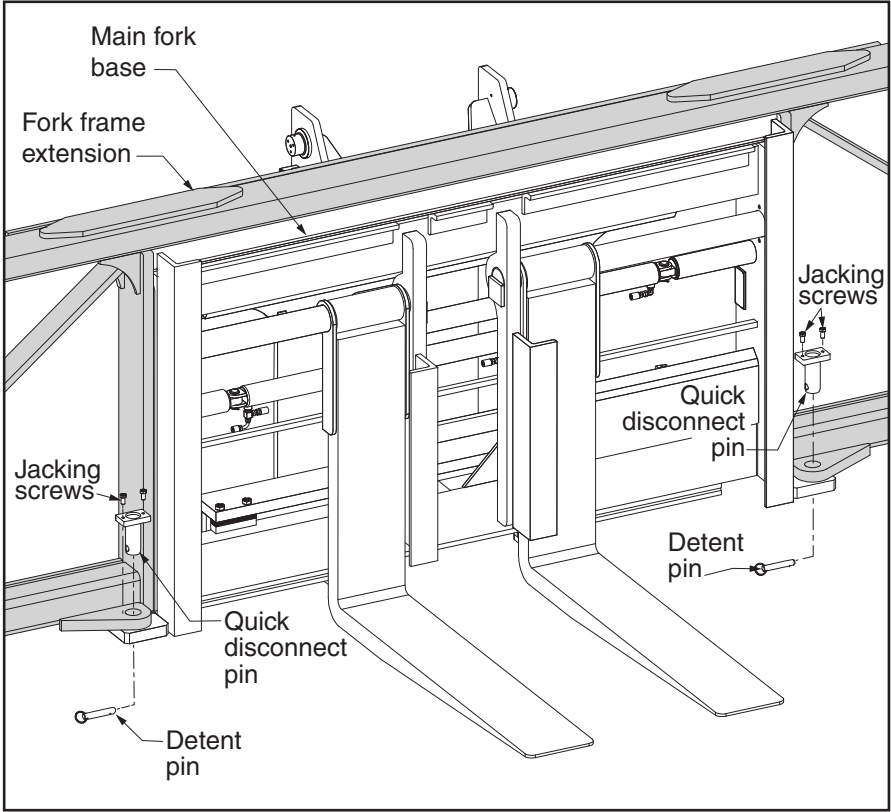

Figure 4-3, Optional Fork Frame Extension Pin Installation
2. If your attachment includes an optional extended fork frame, unscrew the jacking bolts and remove the quick disconnect pins that hold the frame together (Figure 4-3). Lift the extended fork frame off the integral carriage.